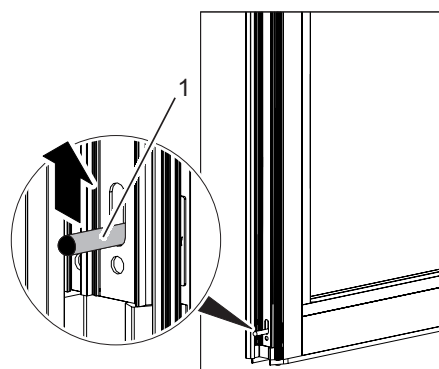

Fig. 6: Operating the end-mounted slide bolt
1. Push the end-mounted slide bolt (Fig. 6/1) upward using the tip of your foot or the hand.